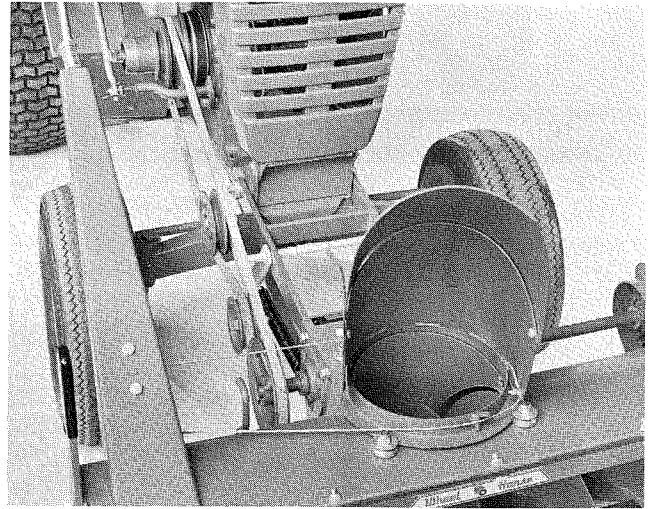

Figure 3
7. Remove the $8\frac{1}{2}$ inch long bolt from the mounting frame. Roll the unit up to the tractor and align the first hole of the tractor frame with the hole in the mounting frame. Insert the bolt through a spacer, frame, and spacer as shown in Figure 3.
8. Place the drive belt in the inner groove of the attachment clutch, wrap the belt around the idler pulleys as shown in Figure 3. **NOTE:** Adjust
1. Face Shroud, Part No. 5520 to the right. (See Fig. 3.)